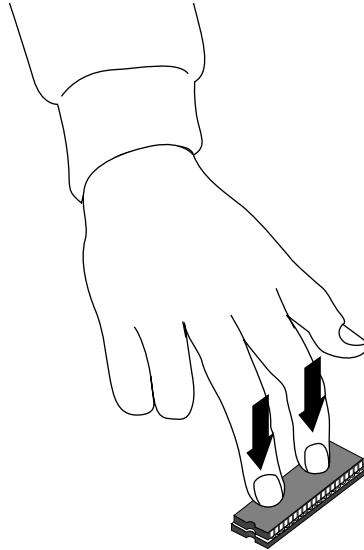

Figure 2-23 Pressing the PROM Chip Into the Socket
5. Once the pins are lined up, press down firmly on the top of the PROM chip until it is completely and evenly seated in the socket, as shown in Figure 2-23.